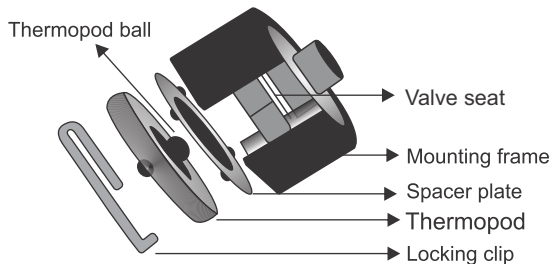

Figure10: Maintaining the air vent assembly
7.6 Inspection and maintenance of air vent assembly :(Refer to Figure 10)